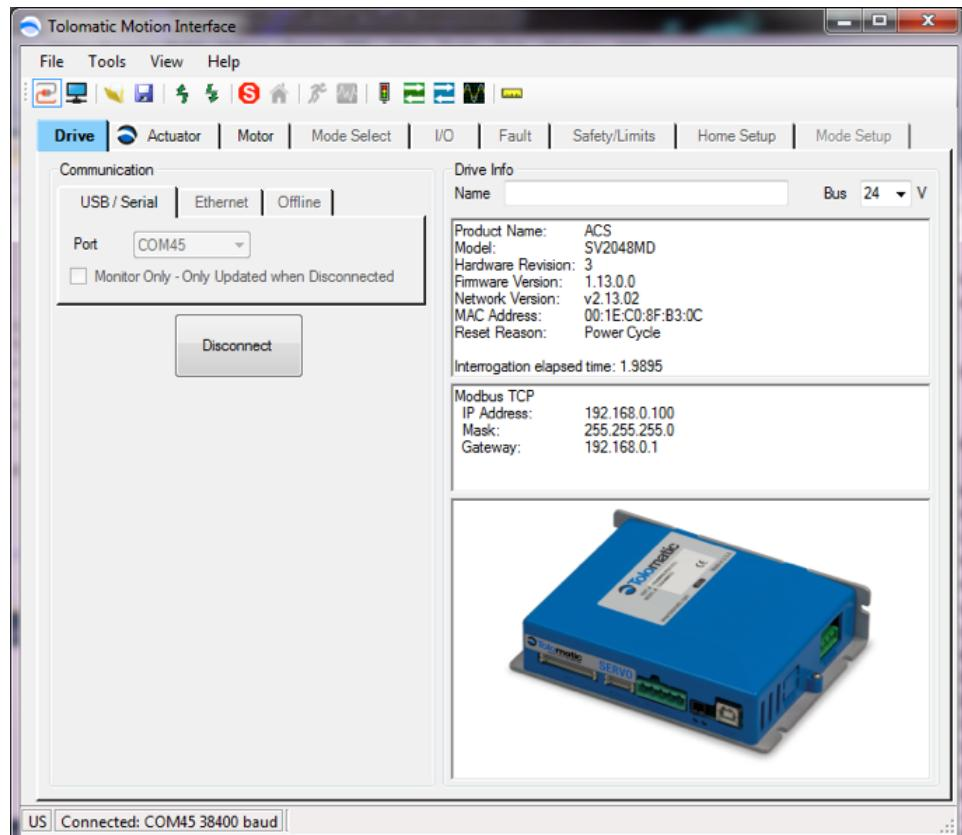

Figure 5-2: Drive Tab Showing ACS Drive Connected
- Upon establishing communication with the ACS Drive, the TMI software reads all the current settings in the ACS Drive and updates the software interface accordingly. As shown in Figure 5-2, the ACS Drive information is displayed in several fields: Name of ACS Drive given by user; ACS Drive information including Model and Firmware Version; and a Photo of the Tolomatic ACS Drive product being configured (ACS Drive/Controller is pictured). If the ACS Drive has Network hardware the MAC address will also be displayed.